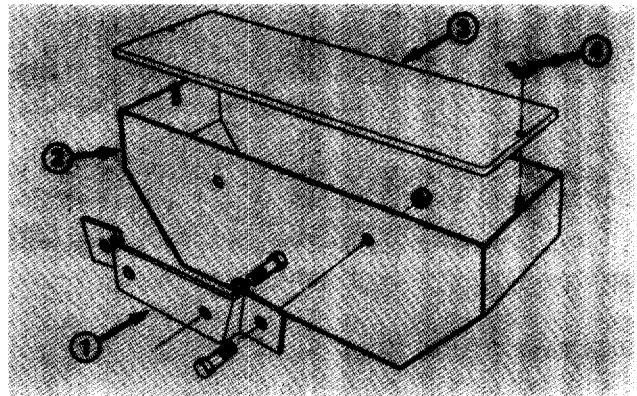

Figure 11
- Secure mounting bracket to rear frame with two 1/2-13x1-1/4" lg. capscrews and lockwashers (Fig. 11).
- Secure weight box to mounting bracket with (2) 1/2-13x1-1/4" lg. capscrews (previously inserted into bracket) and locknuts (Fig. 11).
- Fill weight box with approximately 90-100 lbs. of sand or gravel and install cover. Secure cover with two wing nuts (Fig. 11).